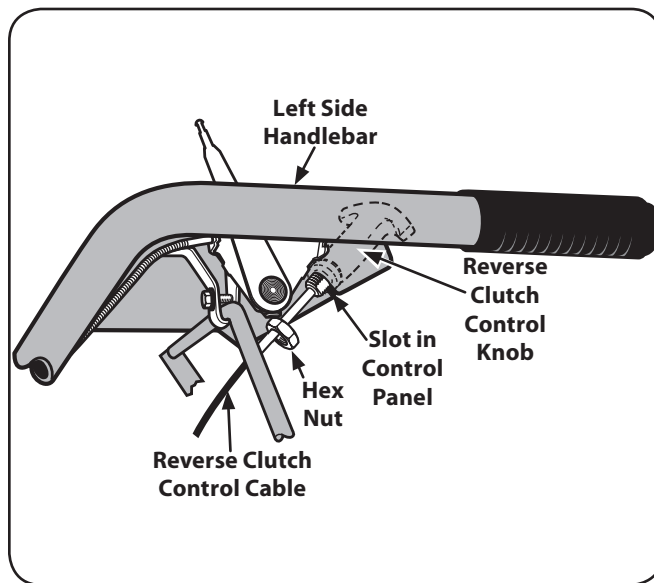

Figure 3-5
1. Carefully unwrap the reverse clutch control cable from its shipping position and route it up along the inside edge of the left side handlebar. See Fig. 3-5. A knob and large hex nut is installed on the cable.